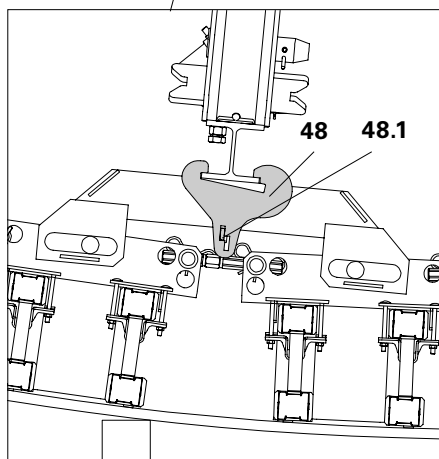

Fig. B1.01b
3. Slide waler connectors (48) onto the profiles of the brace frames, insert into the distribution walers and secure with Wedge K (48.1). (Fig. B1.01b)